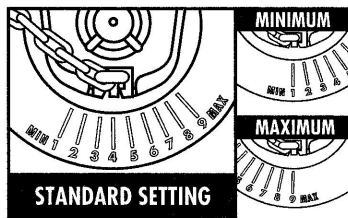

Fig. 3
5. To adjust flush, begin where the chain attaches to frame as your center point. Flapper is set at "9" for maximum flush volume. For standard flush volume, rotate flapper to "4". For less (minimum) flush, rotate flapper to "1". Or rotate anywhere in between for the desired flush volume (Fig. 3).